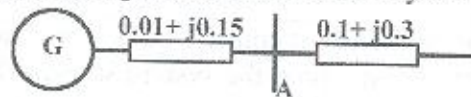

Fig. 2
- 2-2) The dc output voltage of the full-bridge circuit in Fig.2,  $V_o = 24$  V at a load resistance of  $R = 0.8 \Omega$ . The inverter operates at the resonant frequency. The circuit parameters are  $C_1 = C_2 = C = 2 \mu\text{F}$ ,  $L = 5 \mu\text{H}$ , and  $R = 0$ . The dc input voltage,  $V_s = 50$  V. The on-state voltage drops of transistors and diodes are negligible. The turns ratio of the transformer,  $a = N_s/N_p = 0.5$ . Determine the (a) average input current,  $I_s$ ; (b) average transistor current,  $I_A$ ; (c) peak transistor current,  $I_p$ ; (d) rms transistor current,  $I_R$ ; and (e) open-circuit transistor voltage,  $V_{oc}$ . Neglect the losses in the transformer, and the effect of the load on the resonant frequency is negligible.
- 2-d Consider the transmission line connected to a generator as shown in Fig. 2. The impedance data for the generator and the line are given in the Figure. A relay located at terminal A detects all faults on the transmission line. Assume a pre-fault voltage of 1.0 pu, and allow for a possible steady-state overvoltage of 1.2 pu during normal operation. Determine the pickup settings for an overcurrent relay used as fault detectors for this circuit. Allow a sufficient margin between the normal conditions and the pickup settings to accommodate any inaccuracies in relay performance.